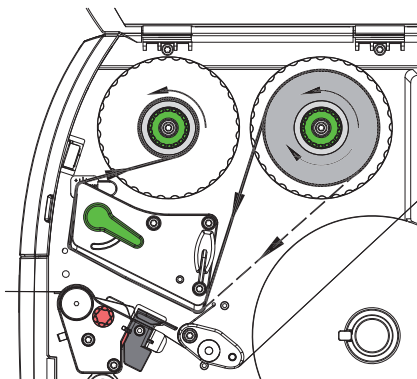

Fig. 15 Transfer ribbon feed path
2. Turn lever (6) counterclockwise to lift the printhead.
3. Slide transfer ribbon roll (1) onto the ribbon supply hub (2) so that the ink of the ribbon faces downward when being unwound.
5. Hold transfer ribbon roll (1) firmly and turn knob of ribbon supply hub (3) counterclockwise until the transfer ribbon roll is secured.
6. Firmly turn knob of ribbon supply hub (5) counter clockwise until transfer ribbon core (4) is secure.
7. Guide transfer ribbon through the print unit as shown in Fig. 15.
8. Secure starting end of transfer ribbon to the transfer ribbon core (4) with adhesive tape. Ensure counterclockwise rotation direction of the transfer ribbon take-up hub here.
9. Turn transfer ribbon take-up hub (5) counterclockwise to smooth out the feed path of the transfer ribbon.
10. Turn lever (6) clockwise to lock the printhead.
The solid line in Fig 15, shows ribbon ink side in, the broken line shows ink side out configuration.